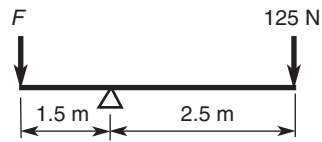

Fig. 38
28. The bar in Figure 38 is in equilibrium. The force F is